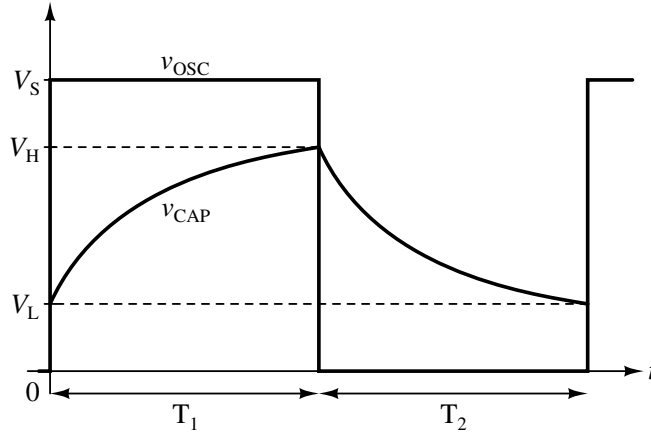

Figure 3: Finding  $T_1$  and  $T_2$
- (A) Assume that  $v_{CAP}$  has just charged up to  $V_H$  so that  $v_{OSC}$  has just switched to 0 V. How much time elapses before  $v_{CAP}$  decays to  $V_L$ , which in turn causes  $v_{OSC}$  to switch to  $V_S$ ?
**Answer:** As shown in the Figure 3, the capacitor now begins to discharge from  $V_H$  toward zero. The capacitor voltage is given by